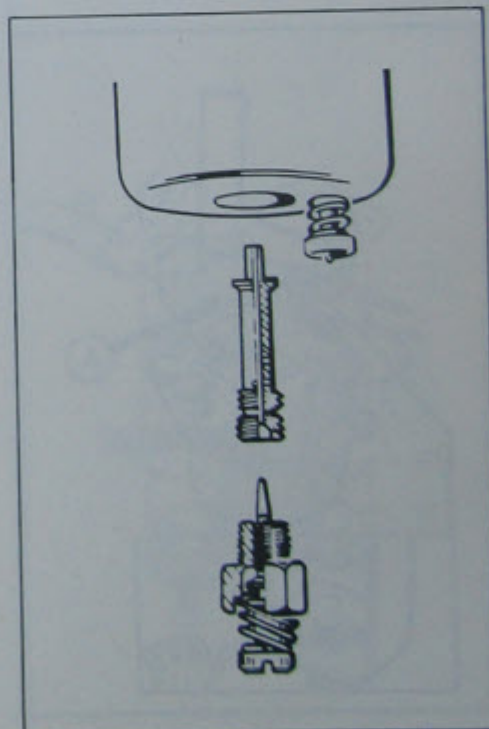

Fig. 15 Adjustable main jet
- Remove fixed jet (see Fig. 15).